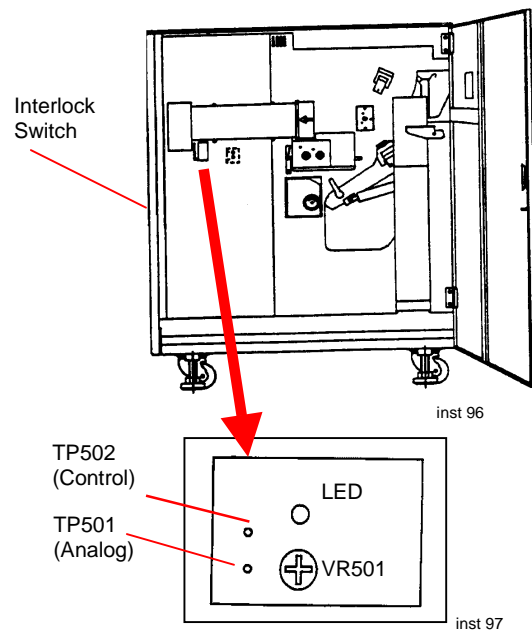

Figure 1. Setting Toner Concentration
3. (Figure 1): Open the Right Side Door and cheat the Interlock Switch.